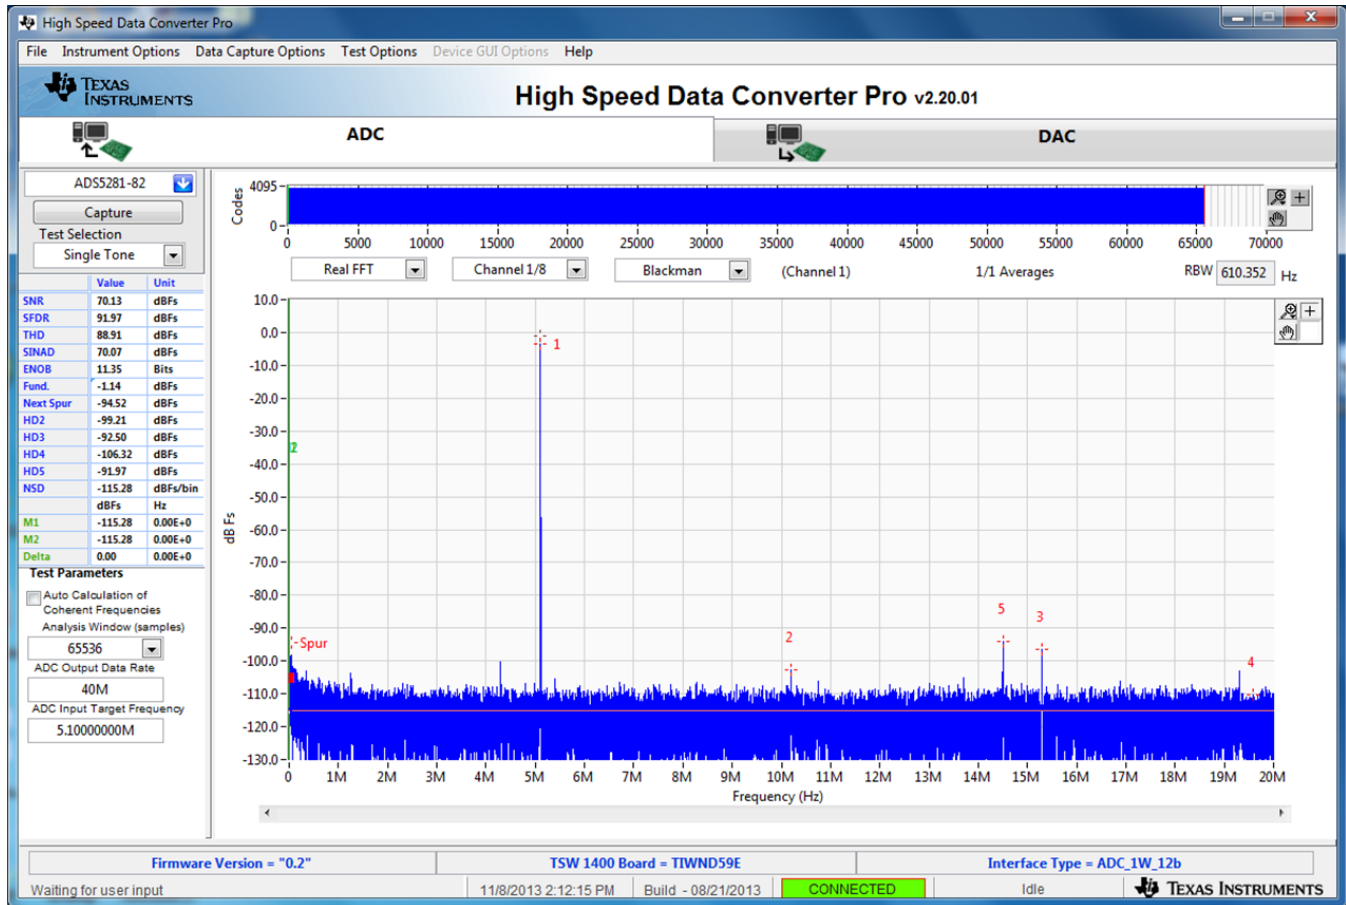

Figure 8. ADC5281 Single Tone FFT Capture Results
- Click on the “Capture” button to perform a data capture. The results should be similar to those shown in Figure 8.